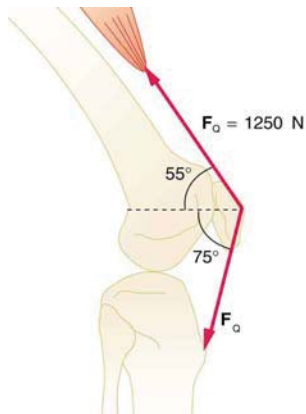

Figure 9.38 The knee joint works like a hinge to bend and straighten the lower leg. It permits a person to sit, stand, and pivot.
28. The upper leg muscle (quadriceps) exerts a force of 1250 N, which is carried by a tendon over the kneecap (the patella) at the angles shown in Figure 9.38. Find the direction and magnitude of the force exerted by the kneecap on the upper leg bone (the femur).